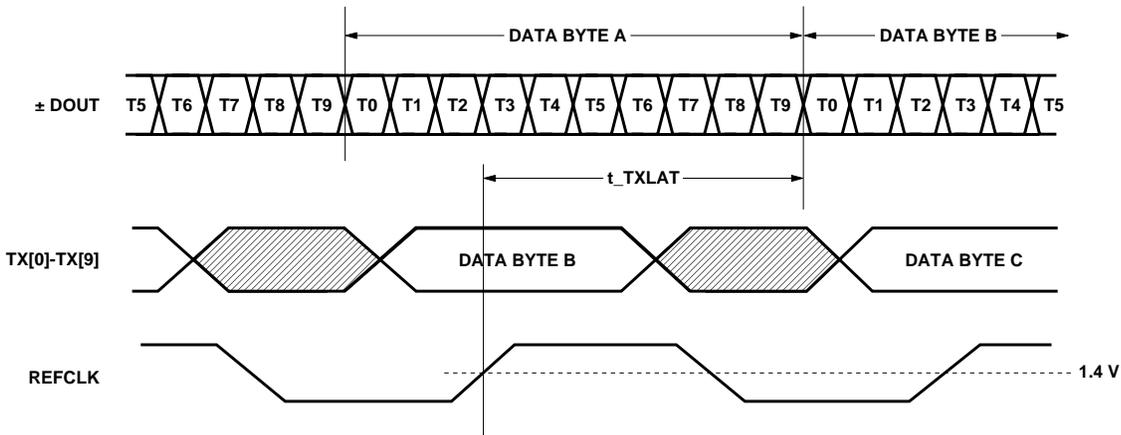

Figure 4. Transmitter latency.
- The transmitter latency, as shown in Figure 4, is defined as the time between the latching in of the parallel data word (as triggered by the rising edge of the transmit byte clock, REFCLK) and the transmission of the first serial bit of that parallel word (defined by the rising edge of the first bit transmitted).
2. The transmitter latency, as shown in Figure 4, is defined as the time between the latching in of the parallel data word (as triggered by the rising edge of the transmit byte clock, REFCLK) and the transmission of the first serial bit of that parallel word (defined by the rising edge of the first bit transmitted).